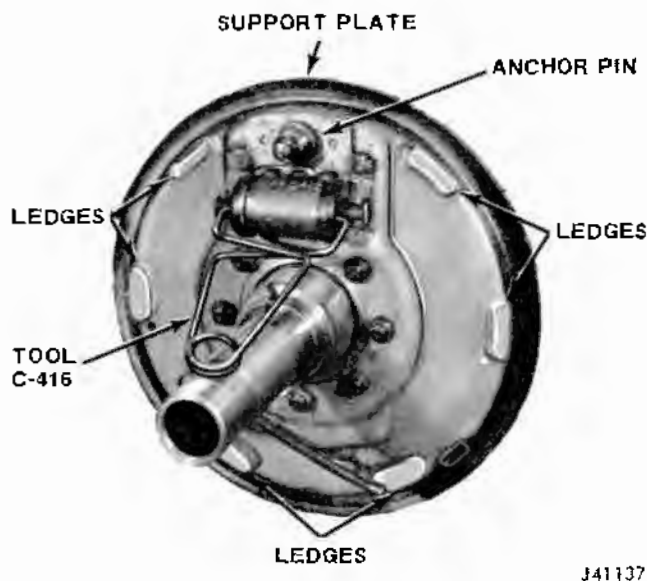

Fig. 9-29 Wheel Cylinder Clamp Installed
(5) Place wheel cylinder clamps C-416 over wheel cylinders to retain pistons fig. 9-29).
(1) Remove dirt using compressed air or cloth. Polish anchor pin with crocus cloth (fig. 9-29).
(2) Polish support plate ledges (fig. 9-29) with emery cloth. If ledges have deep grooves or ridges which can restrict shoe movement, the support plate should be replaced. Do not attempt to reduce ridges or grooves by grinding.
(3) Inspect support plate for warpage or cracks.
(4) Check torque of support plate-to-axle flange bolts.
(5) Check anchor pin for wear or loose attaching part.
(6) Replace support plate if inspection reveals non-repairable defect.